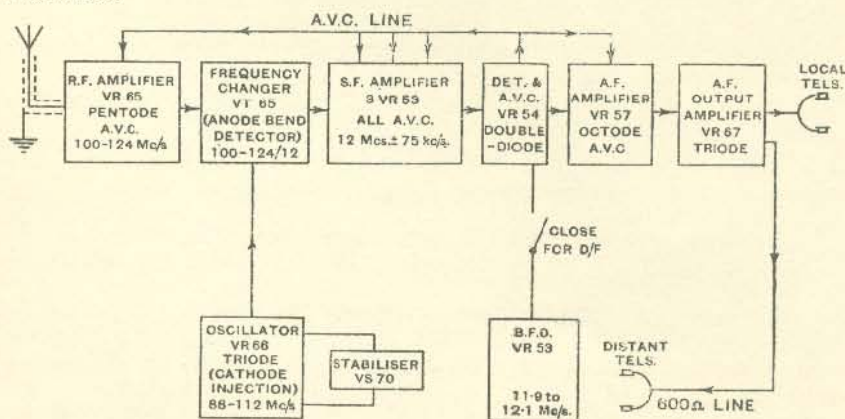

FIG. 82.—Block diagram, R.1132.
6. **Circuit.**—A schematic diagram is at fig. 82. The "R.F. unit" is contained in a screened box inside the receiver, and comprises pentode R.F. amplifier and frequency changing valves, the latter having a separate triode oscillator, the anode voltage of which is stabilised by a neon stabiliser. The "first detector" and oscillator have a common cathode resistance, so that frequency changing comes about by "cathode injection". Coupling between the R.F. and F.C. valves is by tuned transformer; there are thus four tuned R.F. circuits (aerial, R.F. anode, F.C. grid, and oscillator circuits). They are tuned by four ganged variable condensers with small trimmers for alignment. The oscillator circuit tunes from 88 to 112 Mc/s. The neon stabiliser is outside the R.F. screening box.